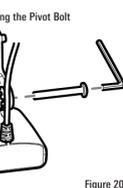
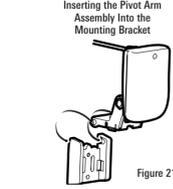

Figure 20
Figure 21
3. Put the pivot bolt through the assembly to hold it in position and loosely install the nut, but do NOT tighten the nut at this time (Figure 20). Insert the pivot arm assembly into the mounting bracket (Figure 21). Do NOT snap the assembly closed, as you will need to access the mounting bracket in the next step.